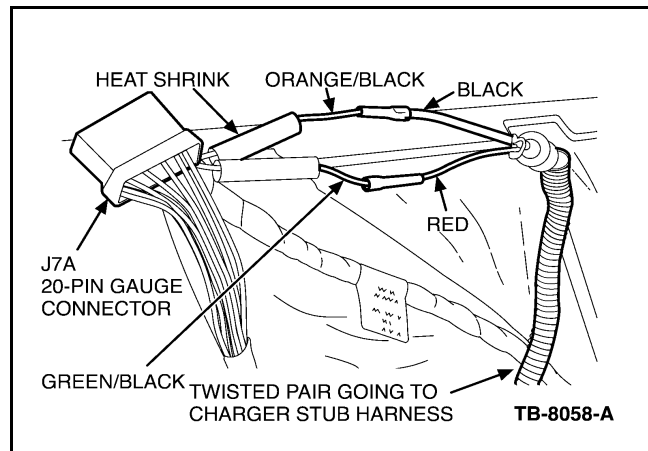

Figure 17 - Article 04-24-9
- g. Locate pin 14 with the orange/black wire and cut it 3" (7.5 cm) back from the connector. Strip back the insulation 1/8" (3 mm). Slide a 1" (2.5 cm) piece of heat shrink over the wire and butt splice black wire from the twisted pair with the orange/black wire going into the J7A 20-pin gauge connector (Figure 17).
- h. Locate pin 13 that has the green/black wire and cut it 3" (7.5 cm) back from the connector. Strip back the insulation 1/8" (3 mm). Butt splice the red from the twisted pair with the green/black wire going into the J7A 20-pin gauge connector (Figure 17).